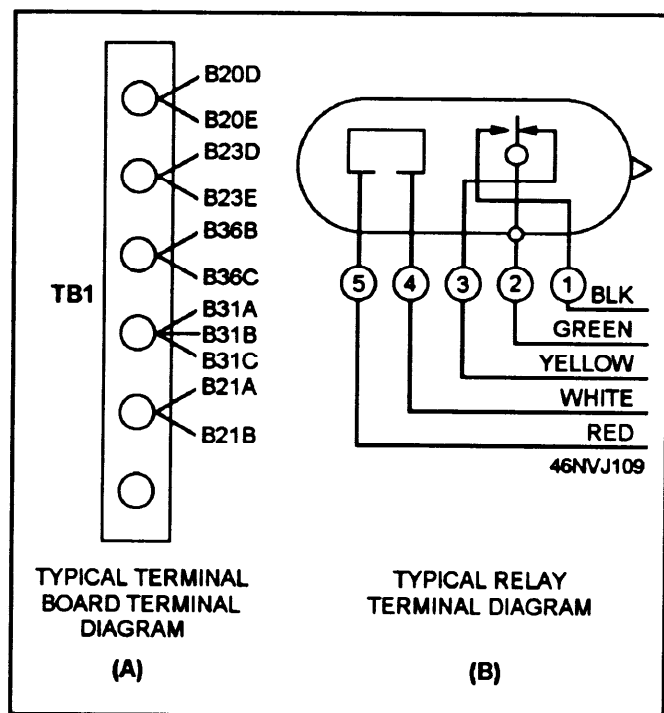

Figure AII-7.—Terminal diagram.
components of a circuit. Figure AII-7 shows two typical terminal diagrams: (A) shows the wire numbers connected to each terminal of a terminal board and (B) shows the color codes of the wires that are connected to a relay.